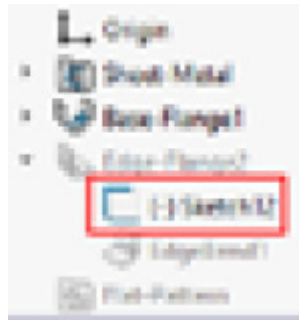

Figure 2.20: Editing the Edge Flange sketch in the FeatureManager Design Tree
6. A faster way of editing the Edge Flange profile is to expand the Edge Flange feature in the FeatureManager Design Tree and then edit the sketch above the **EdgeBend** item (*Figure 2.20* – note, your sketch number may vary). This sketch can then be edited as per *Step 3*.